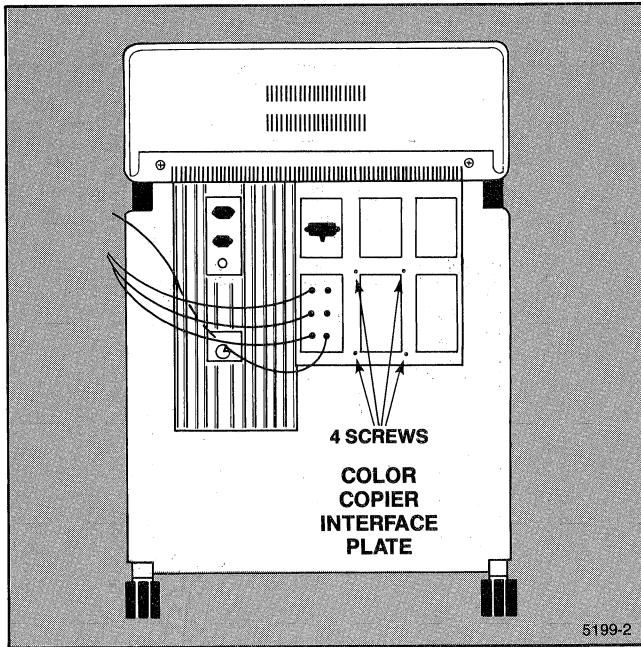

Figure 3. Option Cover Plate Removal.
4. Remove the bottom center option cover plate from the rear of the pedestal (Figure 3).